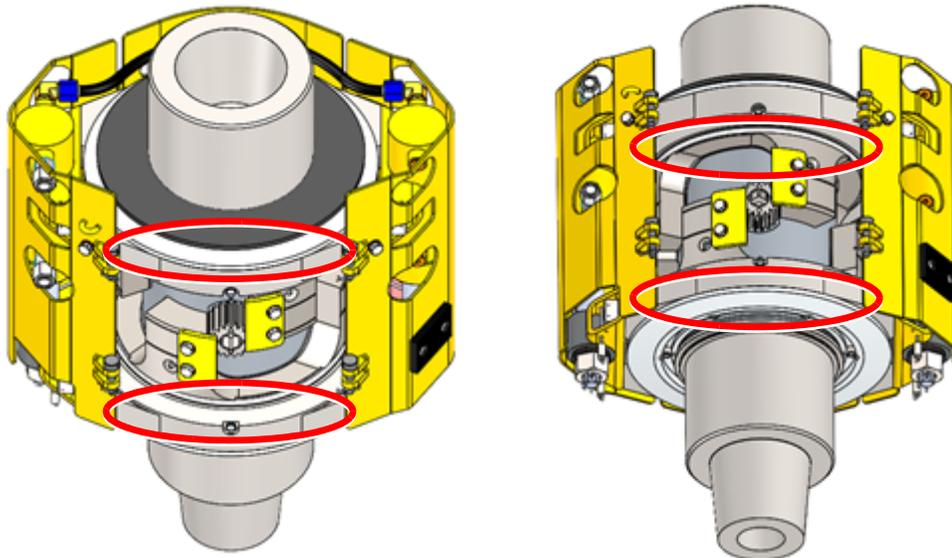

Figure 3: Labyrinth seal locations
1. Remove pins on one side of the middle guard panel and swing open to access the upper and lower grease fittings to view the outer surface of the labyrinth seals (see Figure 3 on page 2). Clean the surfaces so the areas around the labyrinth seals are free of dirt and grease.
3. Repeat step 2 until new and clean grease is observed coming out of the labyrinth seals. See Figure 3.